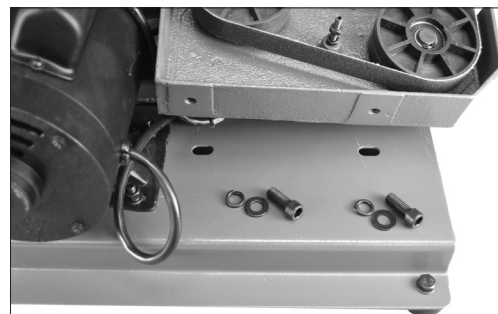

FIG. 1
2. Remove the plastic Belt Cover (#74) from the frame, by unscrewing the two Knobs (#75). This will allow you to see the two threaded holes in the frame for alignment with the base's holes. FIG. 1.